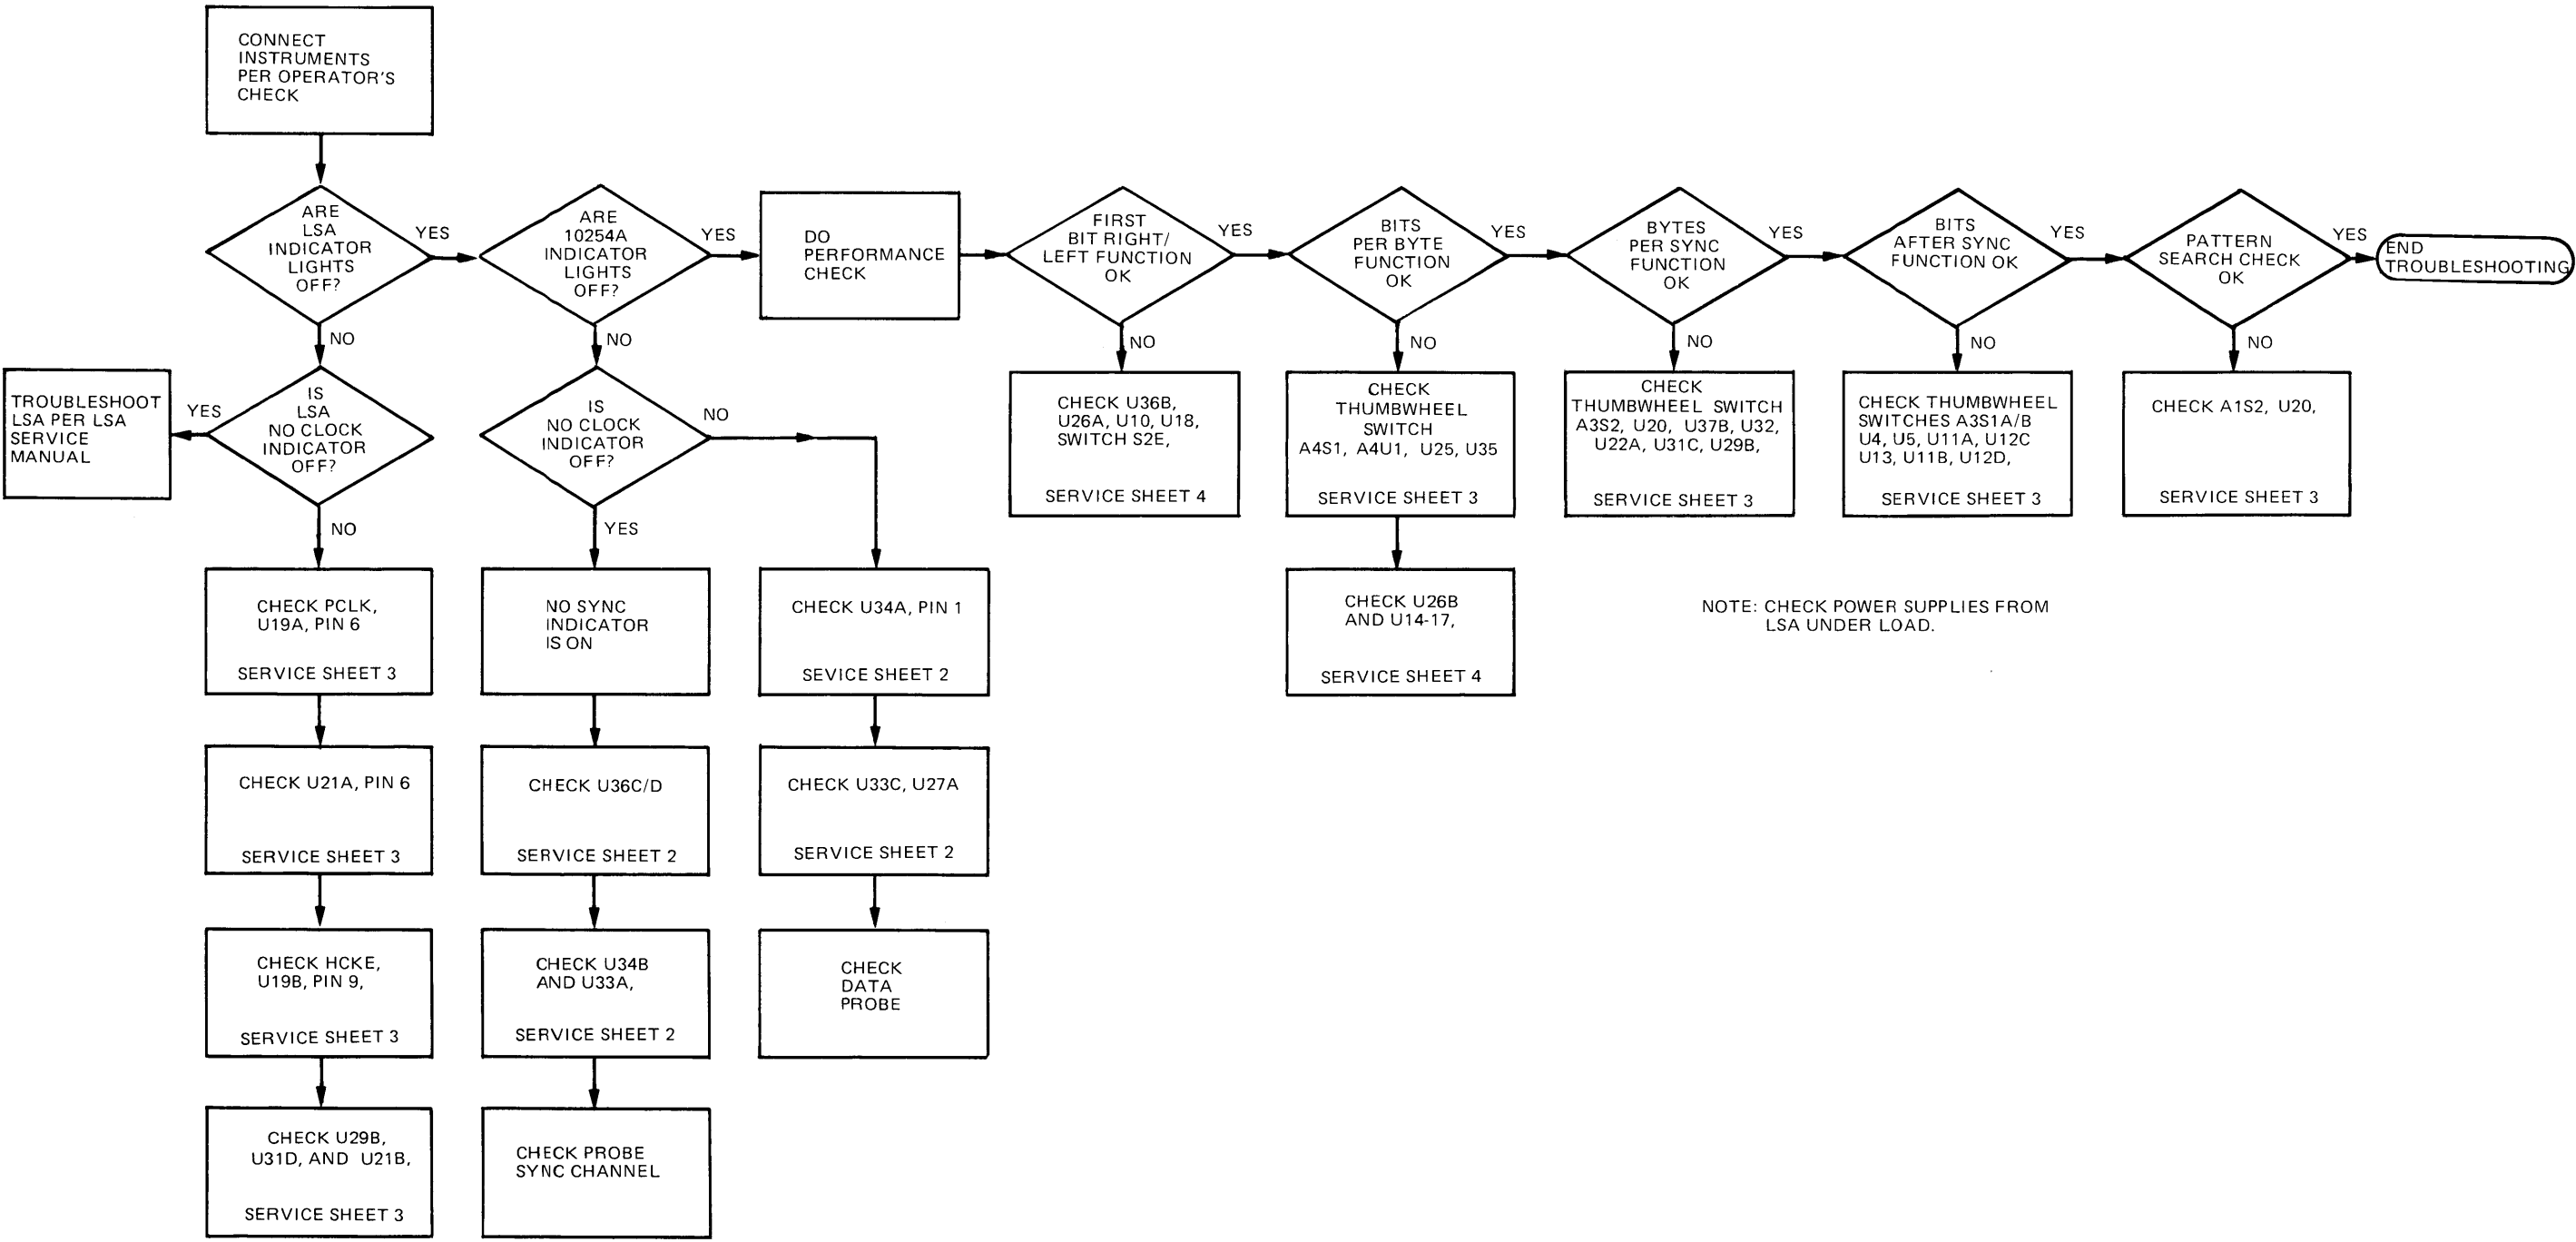

Figure 13. 10254A Troubleshooting Tree
66. Figure 13 provides a fault isolation procedure in flowchart form. Malfunctions can be isolated to a specific circuit or component by following the step-by-step instructions. In addition to the troubleshooting tree, circuit descriptions, block diagrams, stage names, waveforms, and truth tables are included on the service sheets, when applicable, as troubleshooting aids.